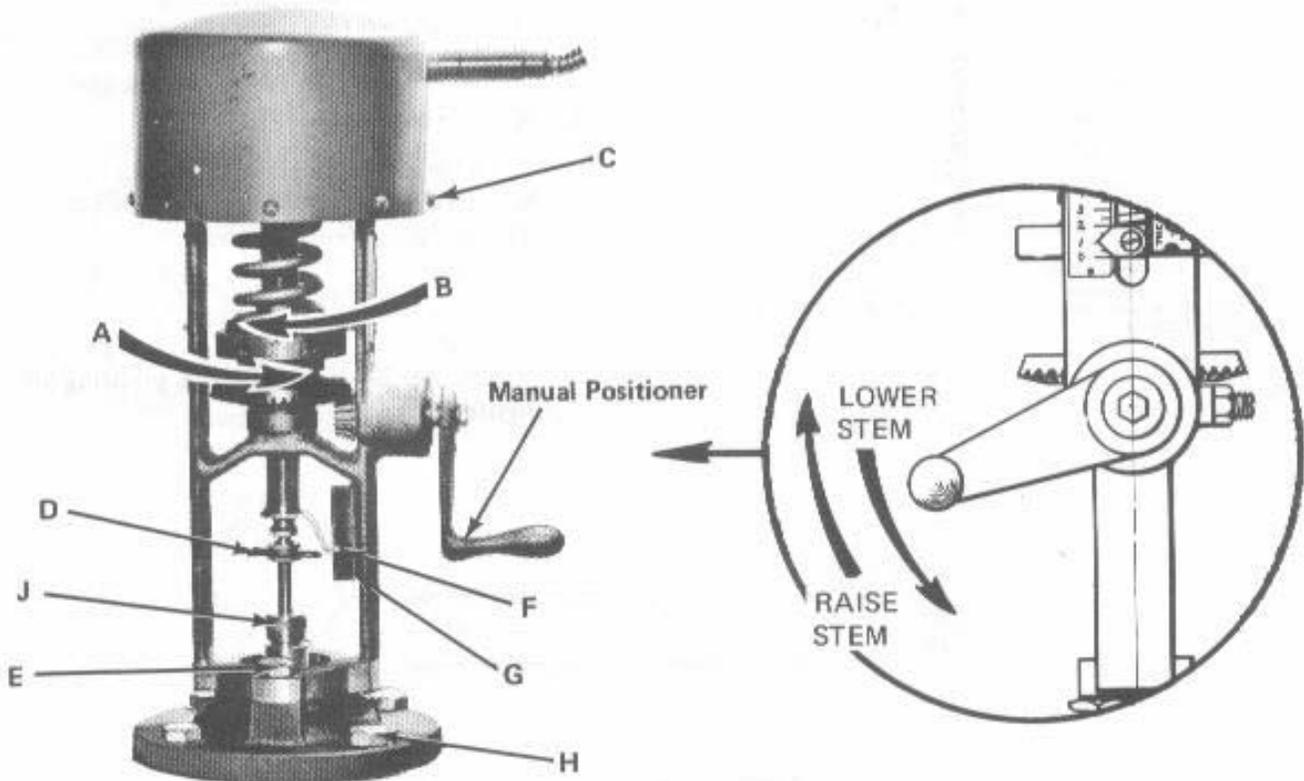

Figure 5
While this normally should not be adjusted, a slight adjustment may be made in this range by turning the adjustment wheel as shown in Figure 5.
Should it be desired to open, close or position the valve manually, it may be accomplished by turning the crank (manual positioner) as shown in Figure 5. The crank should not be forced when the stroke indicator is in either the extreme up or down position, as excessive pressure could result in poppet damage.
Valve stem packing nut (J in Figure 5) should be kept only finger tight. If valve stem packing must be replaced, follow these steps. (See Figures 5 and 6.)
3. Remove the cap screws (H in Figure 5) and bonnet from the valve.
8. Remove the packing nut (J in Figure 5) from the packing box.
C. UPPER WORKS REMOVAL & INSTALLATION (See Figure 5):
2. Turn the handwheel to the left (See arrow "B") to lessen the load on the lock pin (D) and remove the
1. Remove cap screws (H in Figure 5) securing bonnet to valve.
The pressure assembly consists of a two-ply metal bellows with brass heads encased in a brass housing. If for any reason this assembly becomes damaged, it must be replaced as a unit following these steps (See Figure 5).